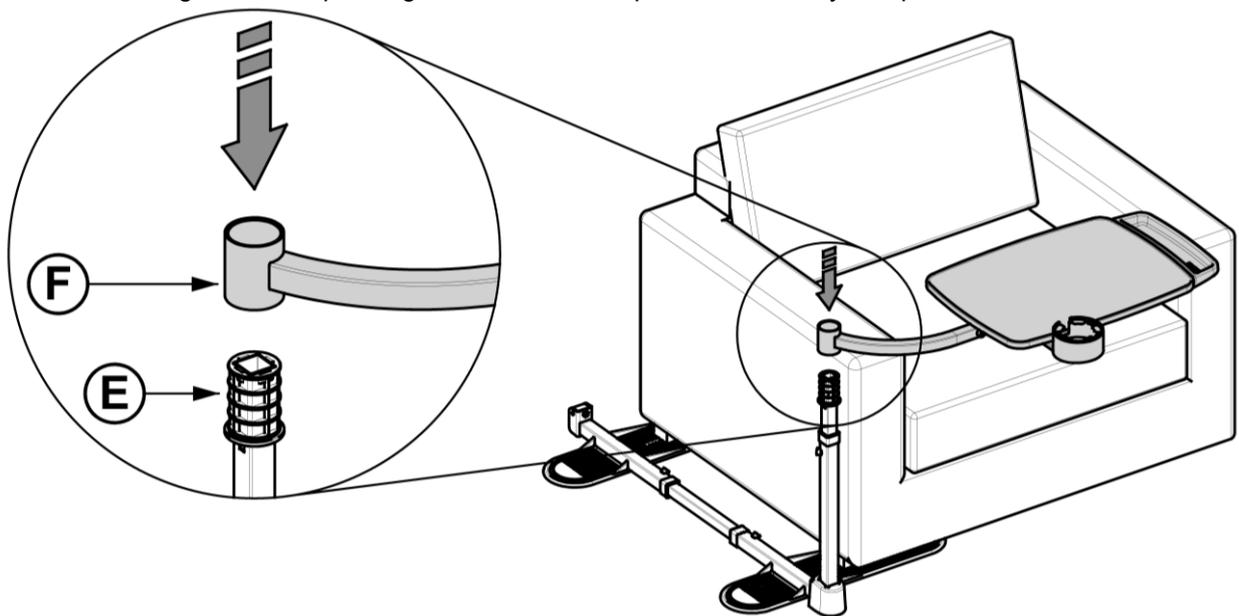

FIGURE 12
12. Slide tray and arm assembly onto top of Internal Upright **E**, as shown in *FIGURE 12*.